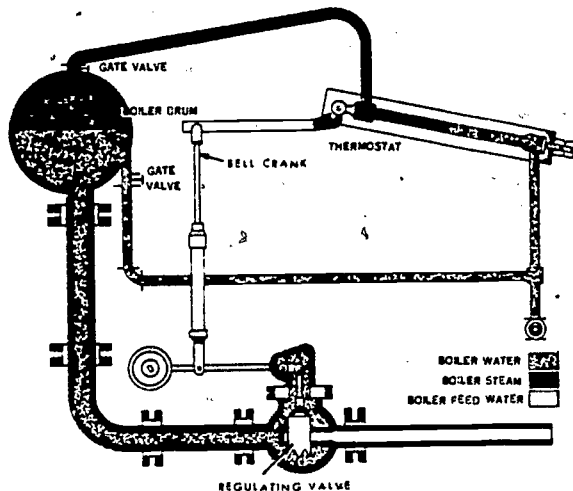

Figure 8. Thermoexpansion water-level control.
9. **Thermo-Expansion Water-Level Control.** In some big steam feed-water systems you will find two large water-level controls, which are commonly referred to as feed-water regulators. One of these controls is the thermoexpansion type, as shown in figure 8. It has an expansion generator called a "thermostat," which consists of a metal tube mounted on a rigid frame. The tube is connected to the boiler at about the normal water level much the same as a water column or gage glass. The tube is fastened at one end and is free to move at the other end. Linkage connects the free end of the tube to a valve bellcrank, which, in turn, opens and closes the regulating valve. The